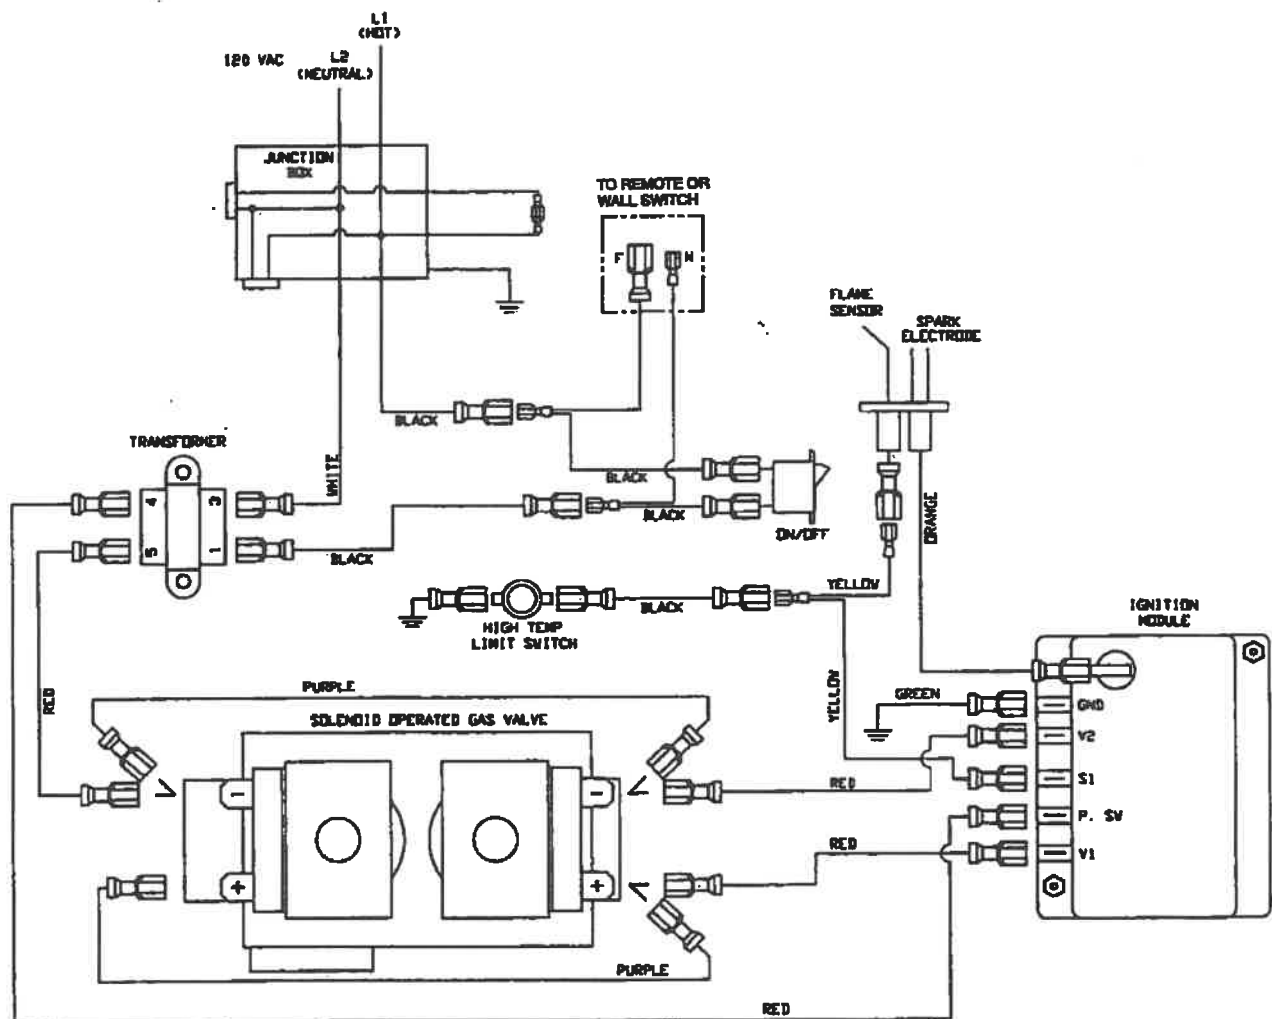

FIGURE 15
1. **APPLIANCE REQUIREMENTS.** This appliance requires 110-120 VAC be wired to the factory-install junction box. Maintain correct polarity when wiring the junction box. See Figure 15-DSI Wiring Diagram.
switch in the desired position on a wall. Run a maximum of 25 ft. (7.8 m) or less length of 16 A.W.G. minimum wire and connect it to the fireplace ON/OFF switch pigtails. See Figure 15.